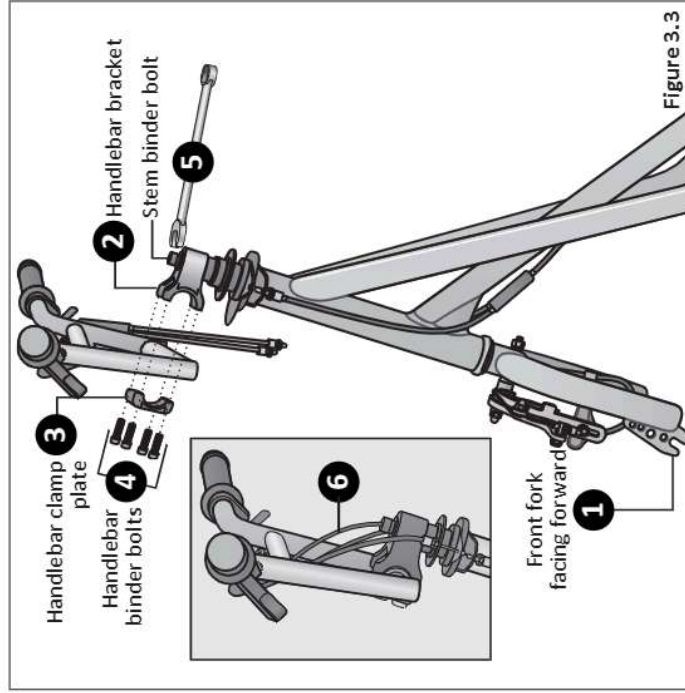

Figure 3.3
- 1** Turn the front fork to face forward. **Figure 3.3**